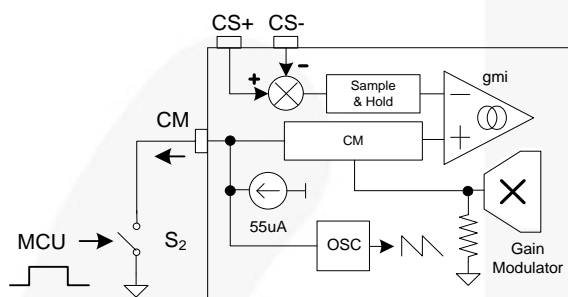
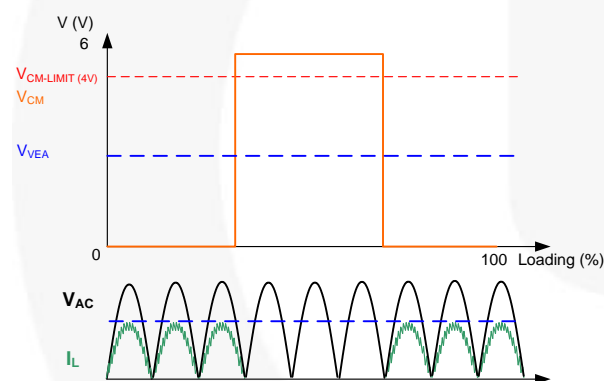

Figure 14. Channel Management by MCU
Figure 15. Channel Management by MCU
To disable the Channel Management (CM) function and control the channels with an external signal from the MCU, the configuration is shown in Figure 14. If $V_{CM} > 4\text{ V}$, the channel is disabled. To enable the channel, make $V_{CM} = 0\text{ V}$, as Figure 15 shows.